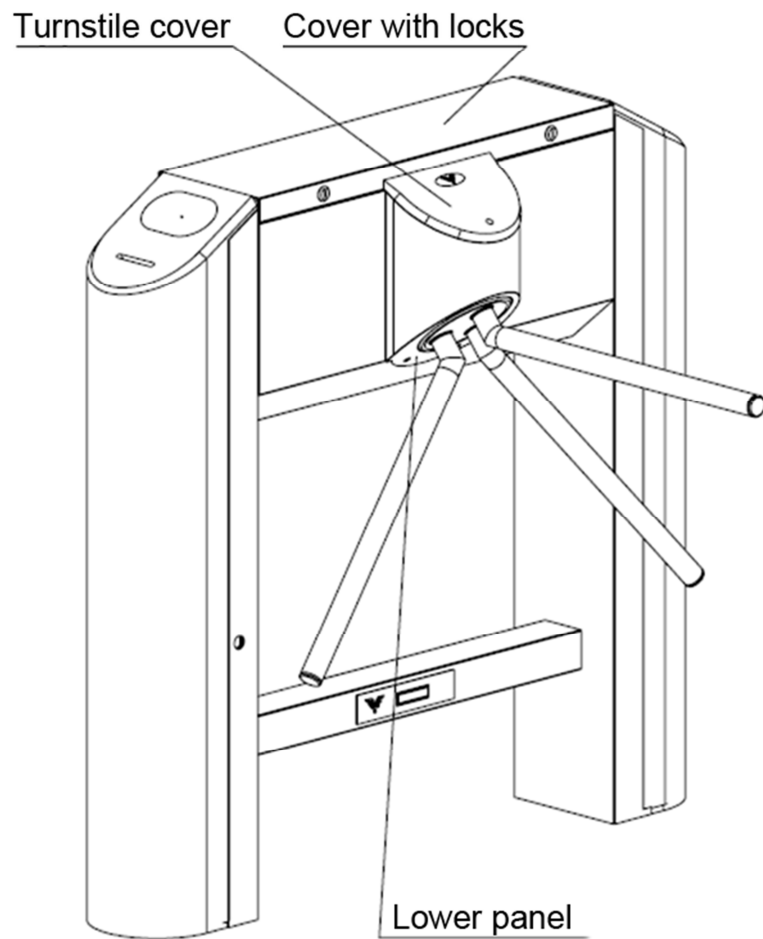

Fig. 1
To get access to all elements of the turnstile it is necessary to perform a partial disassembly. Scope of work includes the dismantling of the LED panel, the hatch with a lock and a lower panel (Fig. 1).
3.3. Open using the key and remove the cover with locks (see Fig. 1).